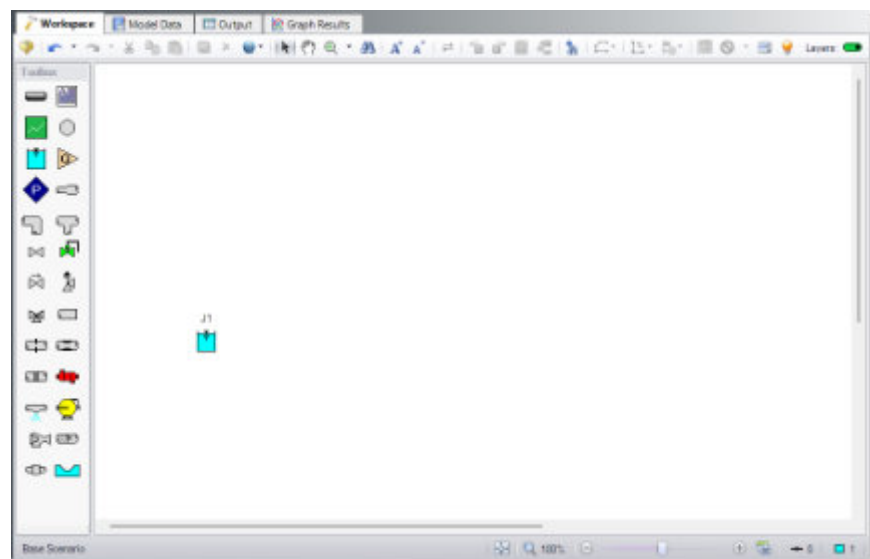

Figure 2.4 Pump Sizing model with the first junction placed
- To start, drag a **Reservoir junction** from the **Toolbox** and drop it on the Workspace. Figure 2.4 shows the Workspace with one reservoir.